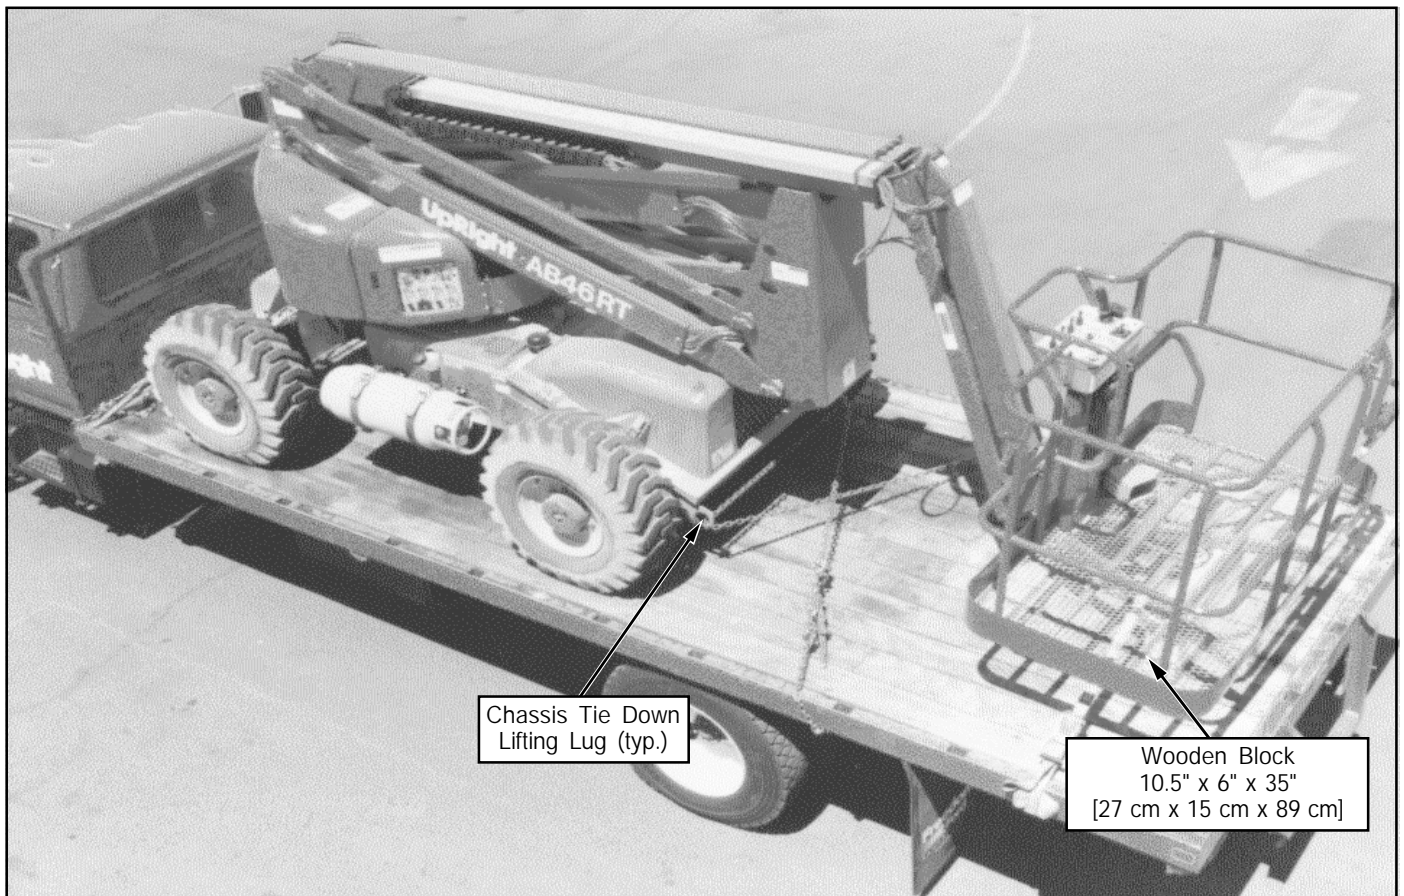

Figure 7: Securing the Machine for Transportation
5. Secure the machine to the transport vehicle using chains / straps of adequate load capacity (refer to specifications, back page) attached to chassis tie down lugs (see figure 7).
6. Place a wooden block (10.5" x 6" x 35" [27 cm x 15 cm x 89 cm]) under platform support braces as shown (see figure 7).
7. Attach ratchet strap; under platform floor grating, over support braces (see figure 7). Tighten securely, do not overtighten.